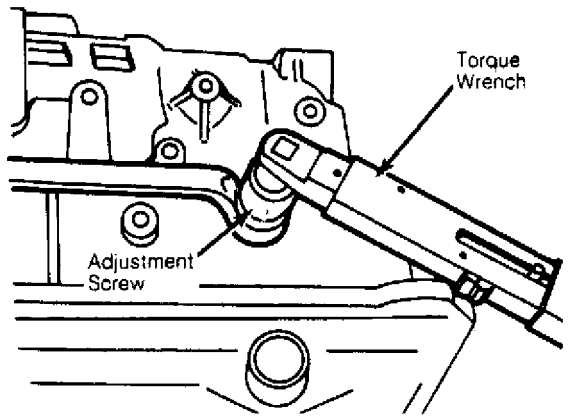

Fig. 1: Adjusting Second Brake Band
- 1) Adjust second brake band with transmission in a horizontal position only. Loosen adjuster screw lock nut. Tighten brake band adjustment screw to 89 INCH lbs. (10 N.m). See Fig. 1.